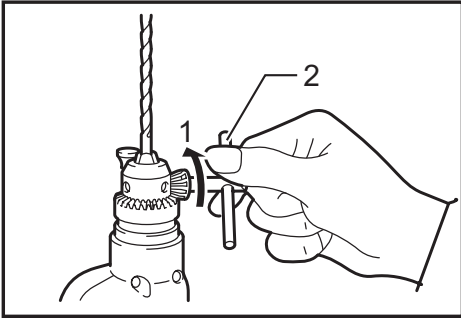

Fig.2
► Fig.2: 1. Tighten 2. Chuck key